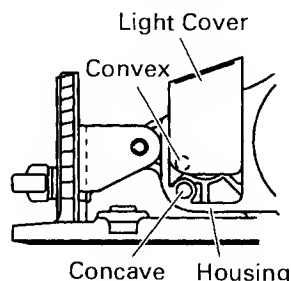

Fig. 20 (Side View)
- (1) Remove the convex part of the light cover from the concave part of the housing, and then pull out the light cover in the arrow-marked direction as shown in Fig. 20.